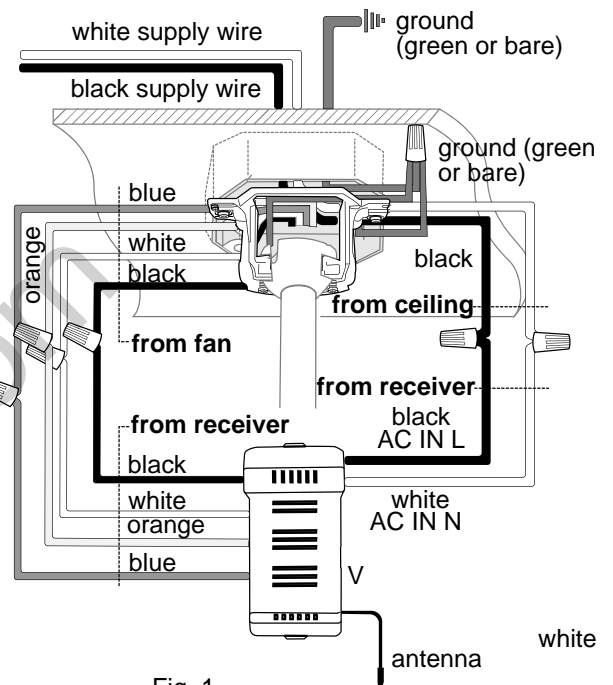

Fig. 1
1. Make the necessary wiring connections for remote operation according to Fig. 1. For each wire connection, use one of the wire connectors (Q) provided, making sure to screw wire connector (Q) on in a clockwise direction. [Make sure to connect all **GROUND (GREEN)** wires together from fan (on downrod and mounting bracket) to **BARE/GREEN** wire from ceiling.]